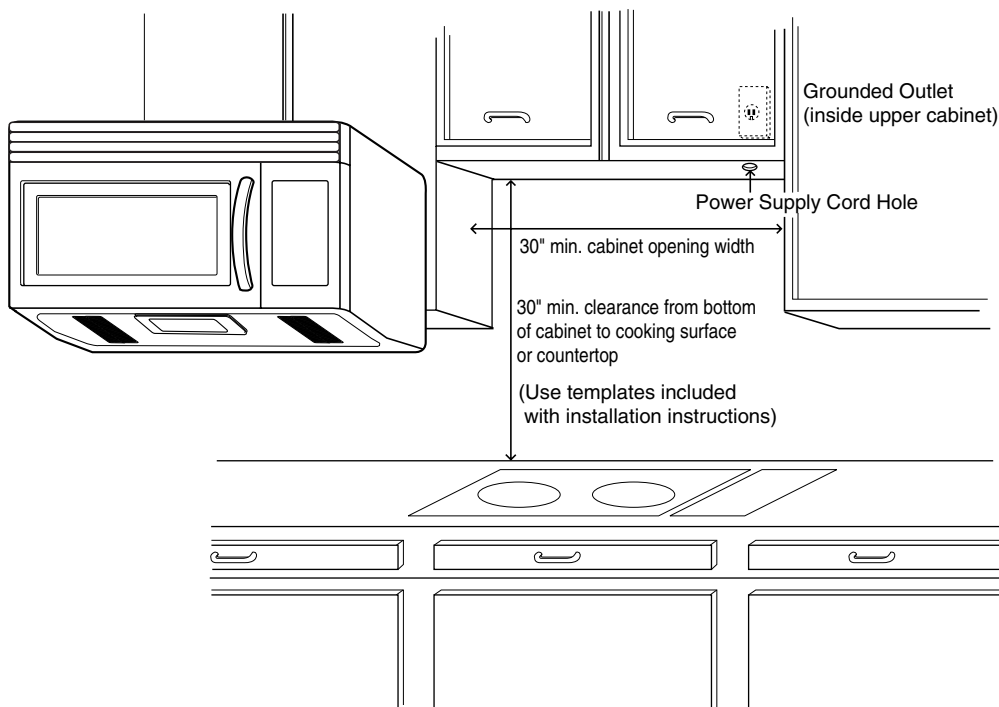

Figure 3
- **BE SURE** you have enough space. See Figure 3 below for minimum vertical and horizontal clearance.